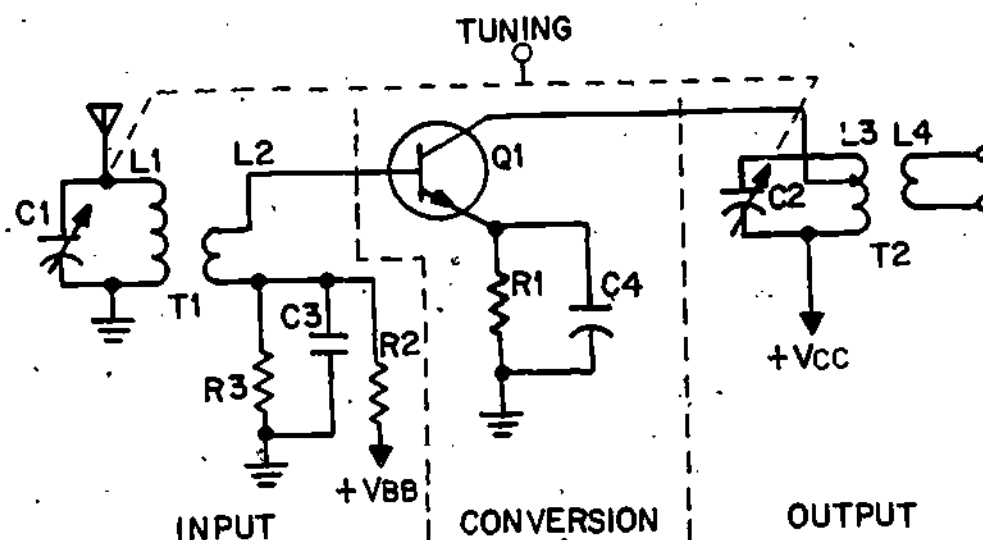

Figure 19
- (21) The circuit shown in Figure 19 is a typical RF amplifier input stage in a broadcast band radio receiver.
In Figure 19, R2 and R3 form a voltage divider to provide forward bias for Q1. C3 places the bottom of L2 at RF ground potential and ensures all signal development is across L2. T1 is a step-down transformer with the low impedance winding L2 connected to the base of Q1. This impedance match provides for maximum energy transfer between the antenna and base of Q1, and also preserves the Q of the L1-C1 tank.
22. In Figure 19, both the Q and selectivity of the tank L3-C2 are preserved in a similar manner. The collector of Q1 is connected to a tap on L3. This technique provides a good impedance match between the collector of Q1 and the tank L3-C2. Therefore maximum energy transfer occurs between the output of Q1 and the input to the following stage. Of course R1 and C4 make up the familiar emitter stabilization resistor and bypass capacitor. You should note that V_{BB} and V_{CC} often are one and the same source.
In Figure 19, the Q and selectivity of tank L3-C2 are preserved by a connection between the _____ of Q1 and a _____ on L3.